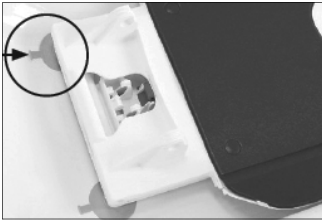

Figure 11
1. Lift the release handle on the rear suction cups to release them off the tub (Fig. 11).